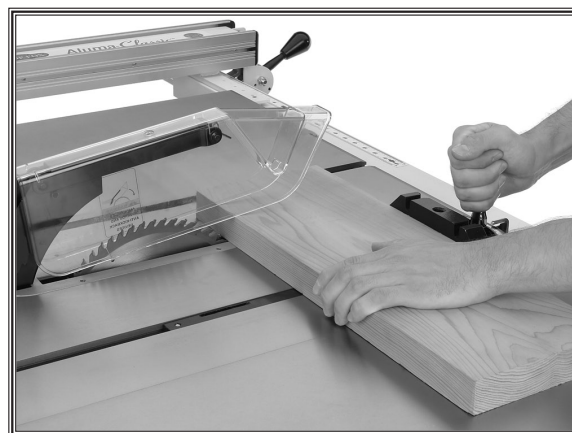

Figure 23. Crosscutting operation.
6. Hold the workpiece firmly against the face of the miter gauge and ease it into the blade as shown in **Figure 23**.